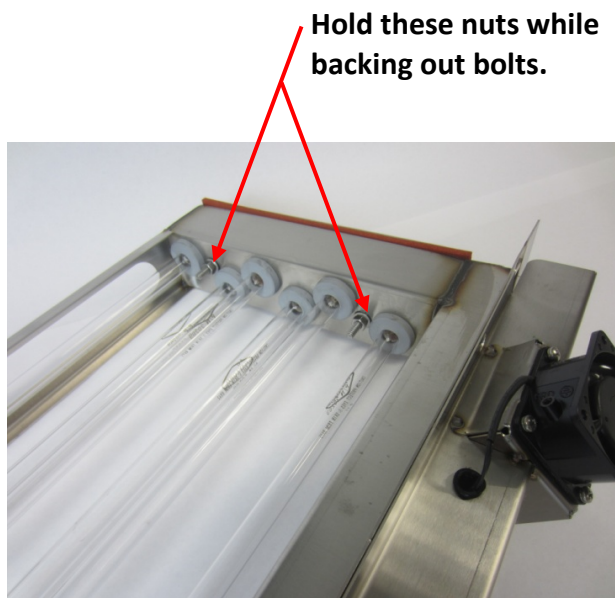
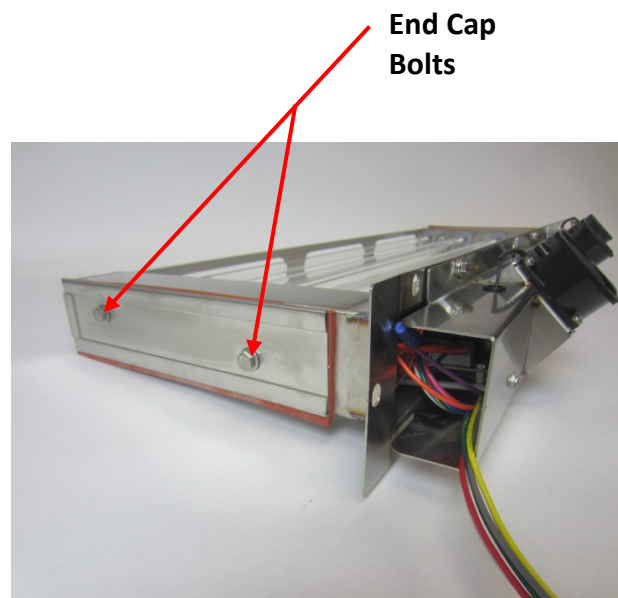

Figure 6-9-3
Figure 6-9-4
7. Next, remove the Module End Caps from each end of the Module. Using a box or open end wrench, hold the End Cap Nut on the back side of the end (Refer to Figure 6-9-3) while backing out the End Cap Bolt from the front side of the End Cap (Refer to Figure 6-9-4). There is a retainer washer on the back side of the End Cap that prevents the bolt from sliding out of the End Cap.